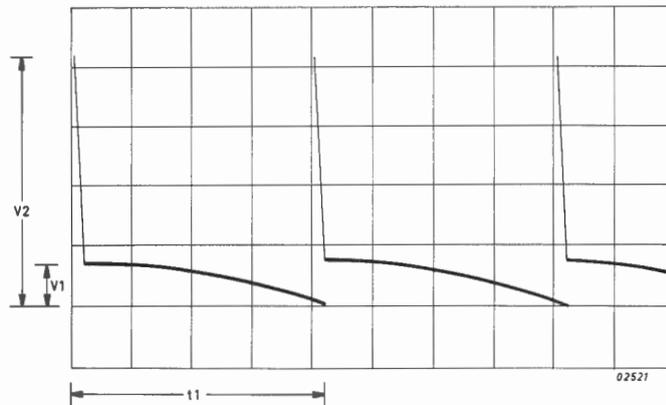

Figure 8.2A VERTICAL DEFLECTION WAVEFORM
- d. Switch on supply and character generator, wait 30S warm-up period. Observe waveform on oscilloscope (see figure 8.2A).